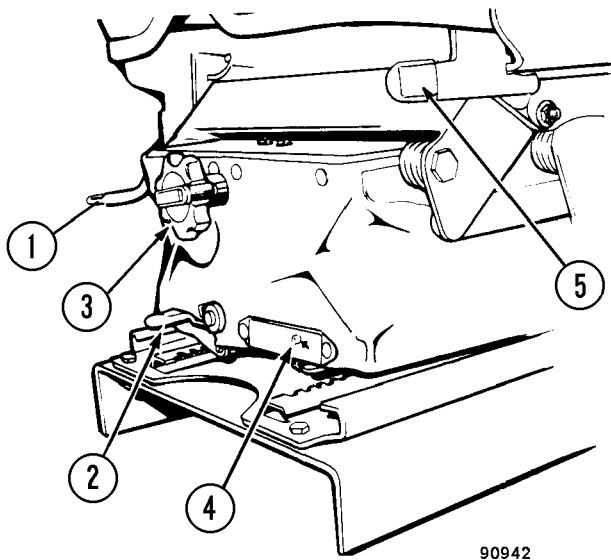
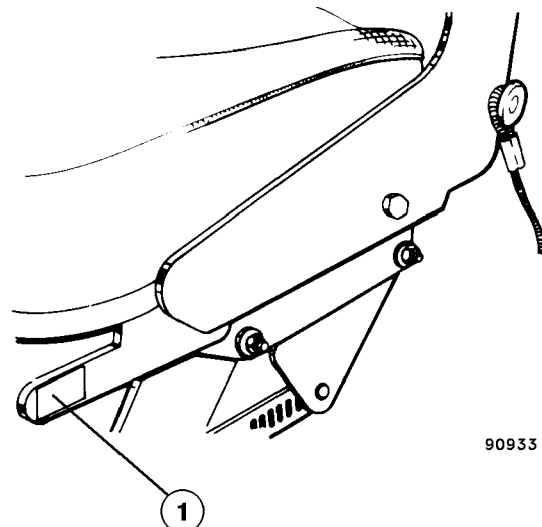

FIGURE 3-3. SEAT ADJUSTMENT
FIGURE 3-4. SEAT TILT LATCH
- a. Depress the "Height Adjust" lever (1, Figure 3-3).
- a. Raise adjustment lever "Lift to Slide" (2).
- a. Turn knob "Weight Adjust" (3).
- c. Proper adjustment results in Weight Indicator (4) being flush with seat base while operator is seated.
- a. Raise "Cushion Tilt Latch" lever (1, Figure 3-4) on left side of seat.